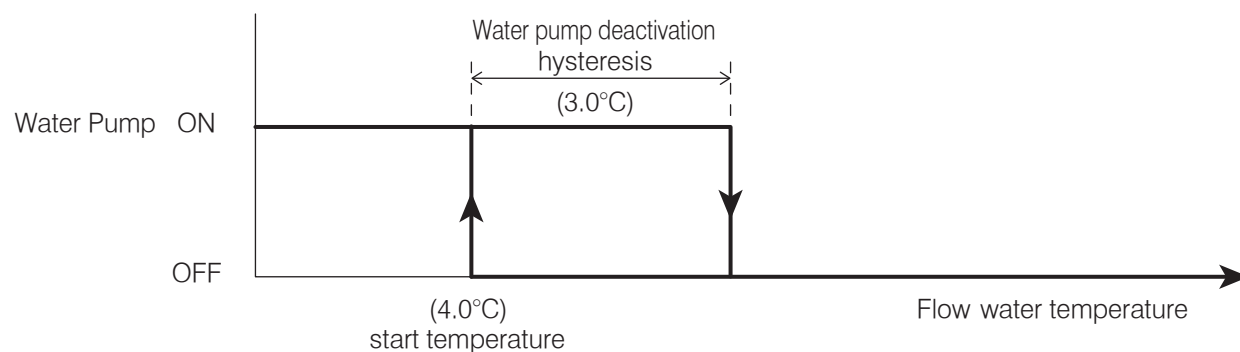

Figure 8-19: Frost protection (flow water temperature) - water pump
- Flow water temperature - refer to Section 8.4.2 and Figure 8-19.